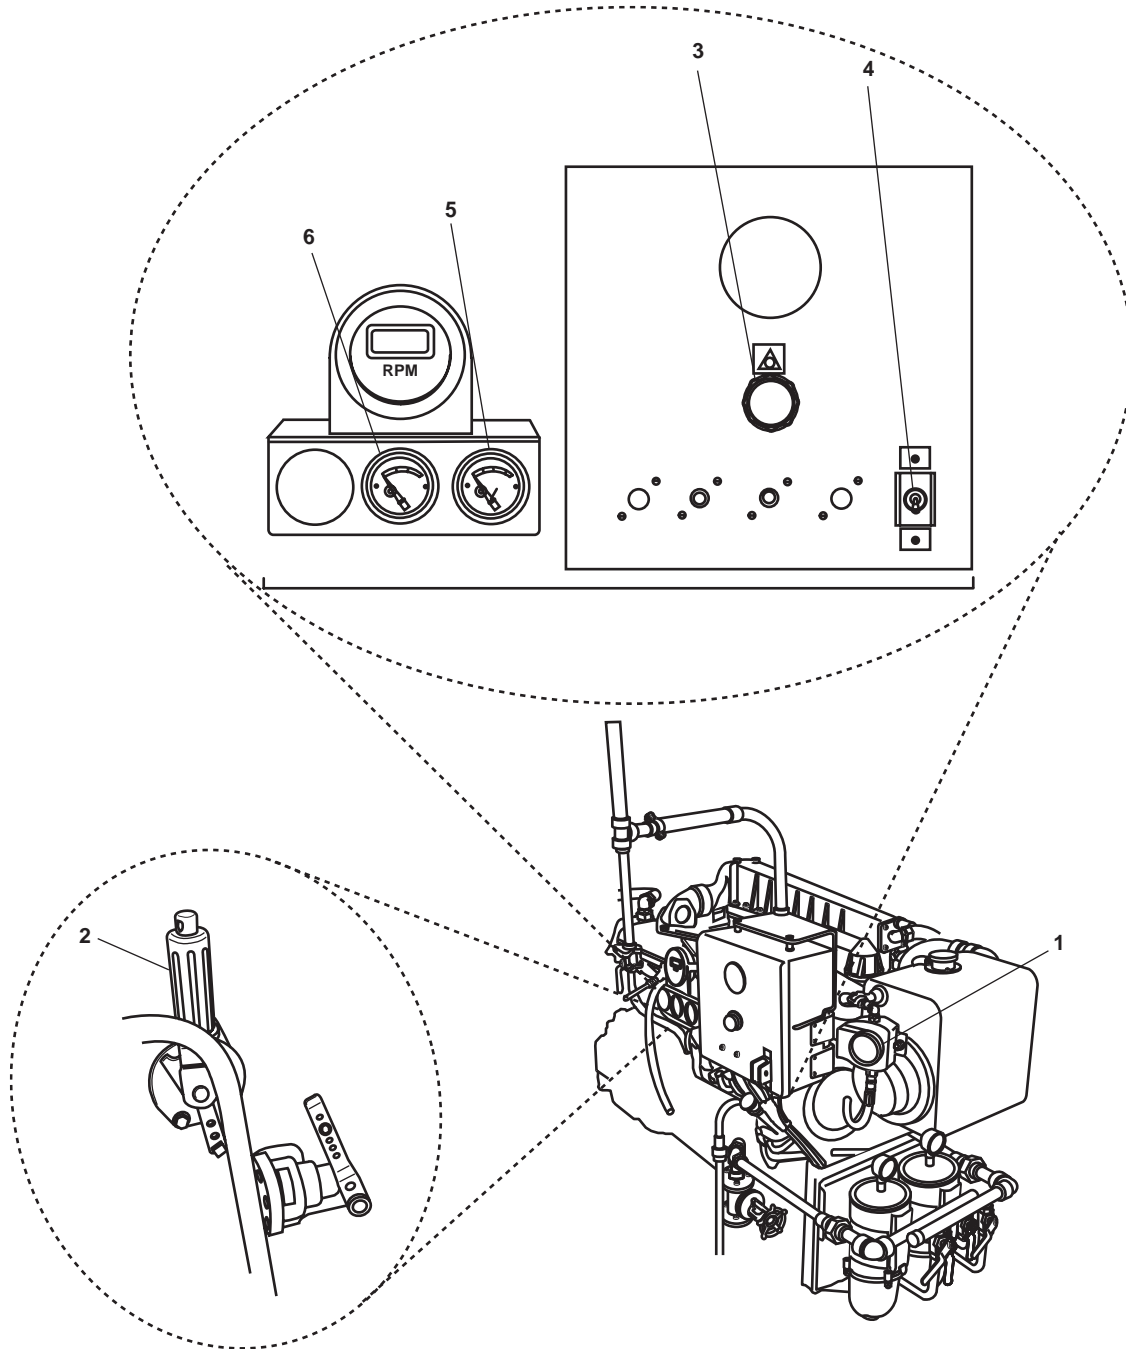

Figure 7. Bow Thruster Engine Controls
- c. Verify the proper heat exchanger coolant level using coolant level gauge (figure 7, item 1).
- d. Move the governor control lever (figure 7, item 2) to the half engine speed position (approximately straight up).
- e. On the bow thruster engine control panel, turn the start/stop pushbutton (figure 7, item 3) clockwise to release the pushbutton to the OUT position.
- g. Position the START-STOP toggle switch (figure 7, item 4) up to the START position to crank the engine. As soon as the engine starts, release the toggle switch, and verify the toggle switch returns to the RUN position.
- h. Allow the engine to idle 3 to 5 minutes, or until the coolant temperature gauge (figure 7, item 5), begins to rise.
- i. Check the engine gauges (figure 7, items 5 and 6), and ensure the readings are in the green range.
- b. Place the governor control lever (figure 7, item 2) in idle position (local control and locked).
- d. Set the START-STOP switch (figure 7, item 4) to the OFF position, or push the governor control lever (1) in the aft direction until the engine stops.
- e. Push in the EMERGENCY STOP pushbutton (figure 7, item 3).